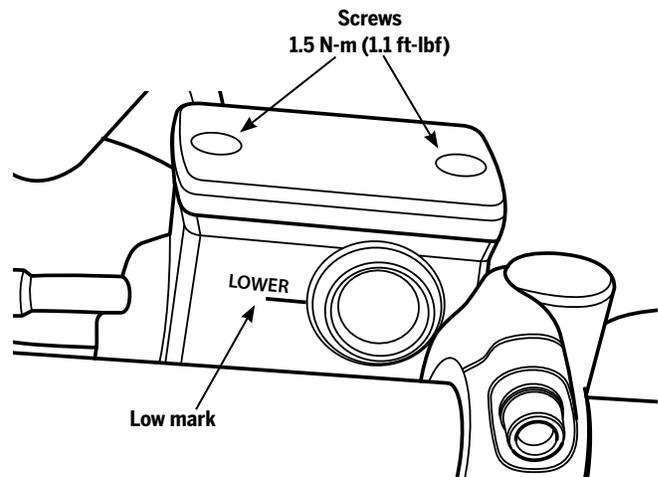

Figure 74: Checking the Brake Fluid Level
3. Inspect the sight glass and determine if fluid is below the "low" mark (**Figure 74**). If fluid is below the "low" mark, brake fluid needs to be added.